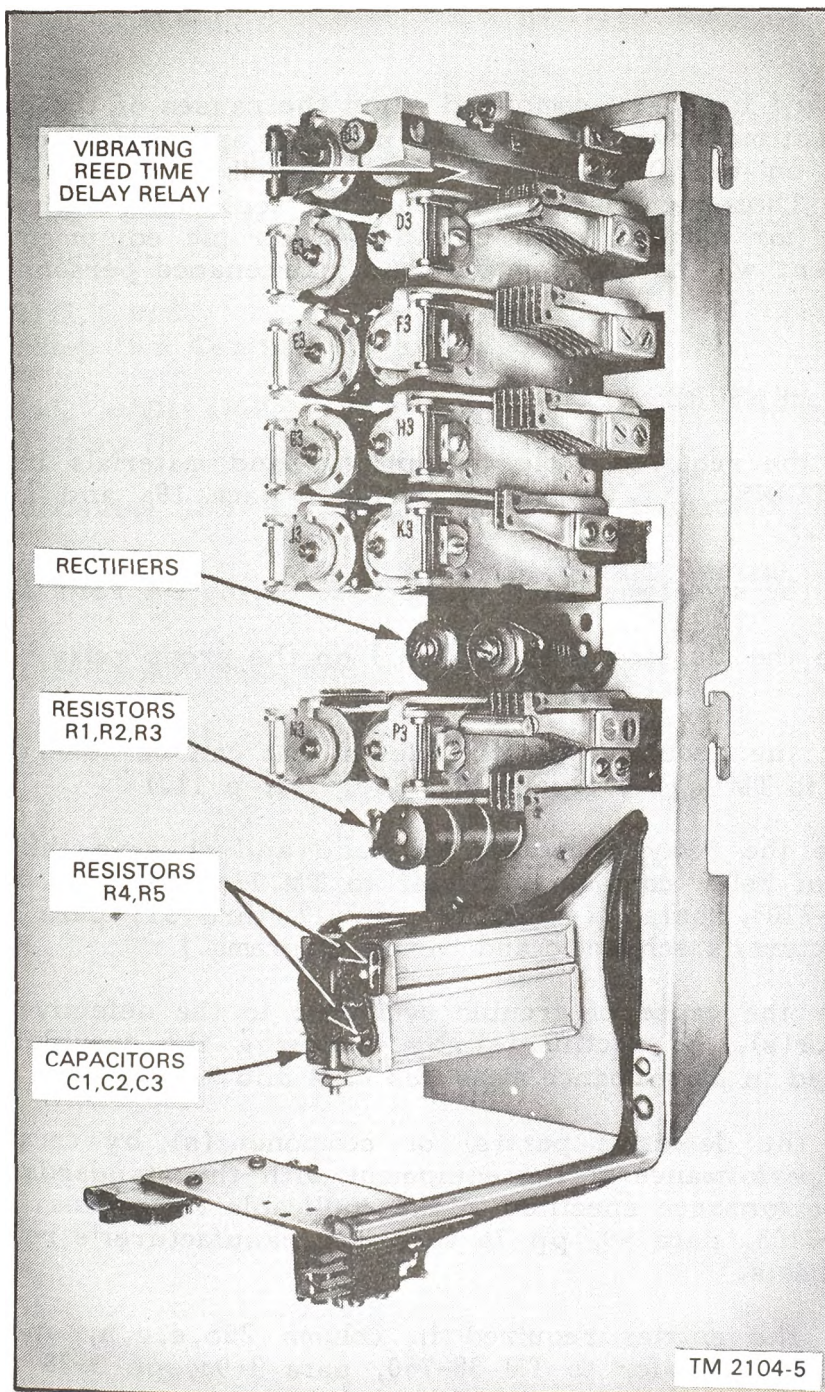

Figure 1. Step-by-Step Dial Central Office Group Relay Assembly.
3. Operate the Busying Switch (SW-7) on the group relay. (Refer to fig 1.)